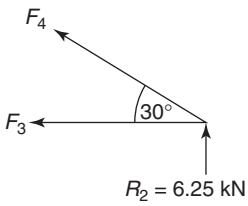

Figure 4.36
**Consider joint (2);** see Figure 4.36.